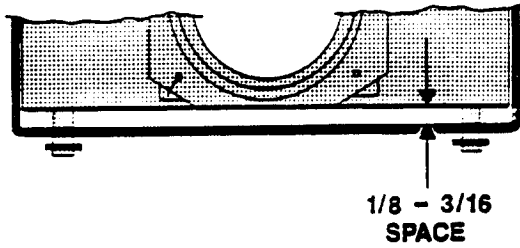

FIGURE 3.10
7. Wind the cable clockwise on the outer spool until the carriage is pulled back from the inner face of the base assembly (See Figure 3.10) 1/8 to 3/16 inch.